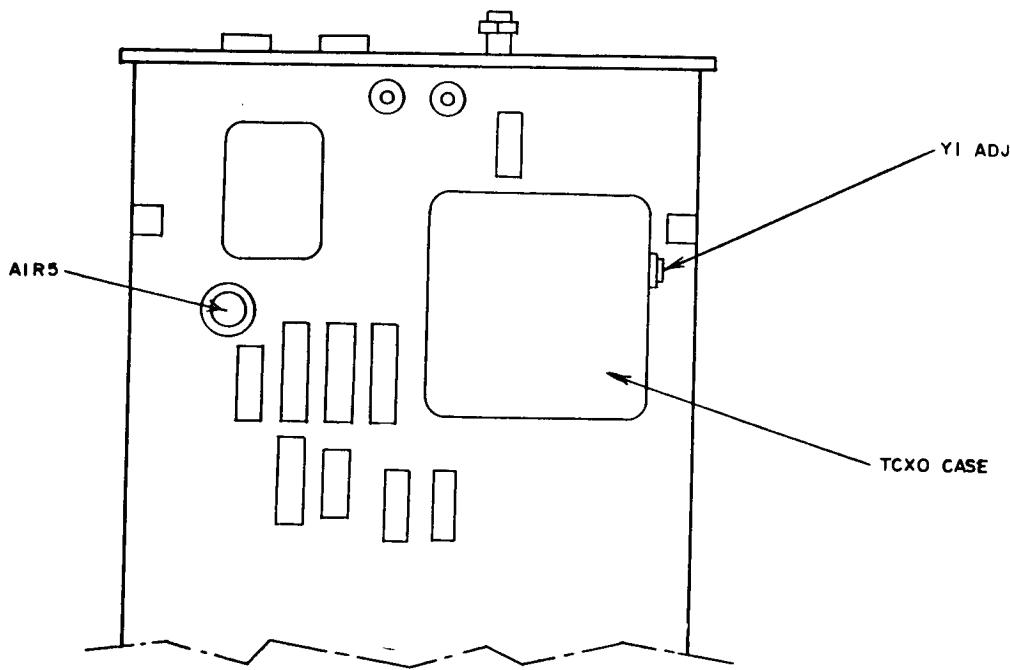

Figure 1. Test instrument - (Hewlett-Packard, Model 5303B) - bottom view.
- (1) Connect frequency counter **A** input to TI **OSC** jack (rear panel).
- (2) Adjust **Y1 ADJ** (fig. 1) as required to obtain frequency counter indication of exact frequency stamped on TCXO CASE (fig. 1).
- (3) Adjust autotransformer output from 105 to 125 V while monitoring frequency counter indication. Frequency will not change by more than 0.5 Hz.
- (4) Adjust autotransformer output for 115 V.
- (1) Connect signal generator to 525 MHz jack, using adapter and cable.
- (2) Press **1 kHz RESOLUTION** pushbutton.
- (3) Adjust signal generator frequency for 500 MHz and amplitude to obtain 100 mV.
- (4) Adjust A1R5 (fig. 1) for stable indication of applied frequency on measuring system (R).
- (5) While reducing signal generator amplitude, continue adjusting A1R5 until maximum sensitivity is obtained.